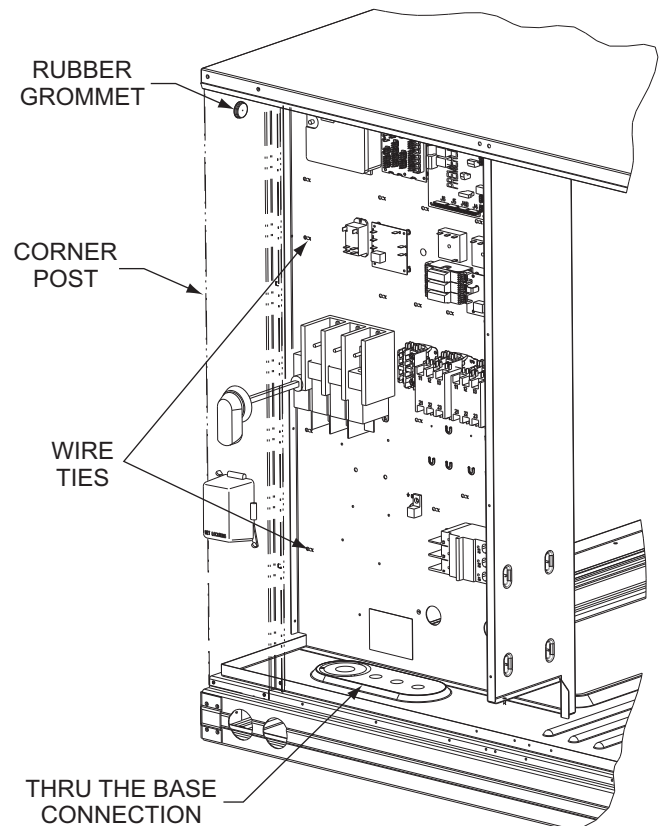

Fig. 41 — Field Control Wiring Raceway
2. Feed wires through the raceway built into the corner post (see Fig. 41) to the 24-v barrier located on the left side of the control box. The raceway provides the UL-required clearance between high-voltage and low-voltage wiring.